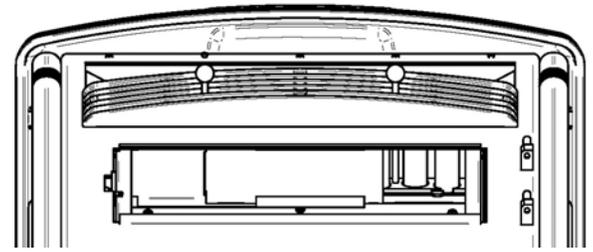

Figure 46
- b. Open the door and remove the baffle from the firebox. Slide each side of the baffle toward the center to remove (Figure 46). Close the door.
- b. **Baffle:** Remove the baffle and scrape off ashes. Slide both sides toward the center to remove the baffle(Figure 46) Use a vacuum is necessary. In some cases, you will need to remove creosote on the baffle, which can accumulate rapidly under certain conditions. A small wire brush can be used. It is important to remove this creosote because it is highly combustible and could cause premature corrosion.